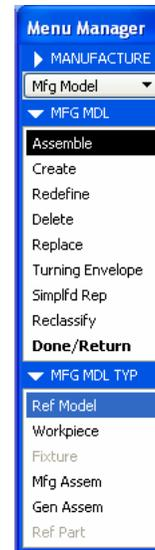

Figure 2: Reference Model
Step 3: Select **MFG MODEL >> ASSEMBLE >> Ref MODEL** on the Menu Manager. (Figure 2)